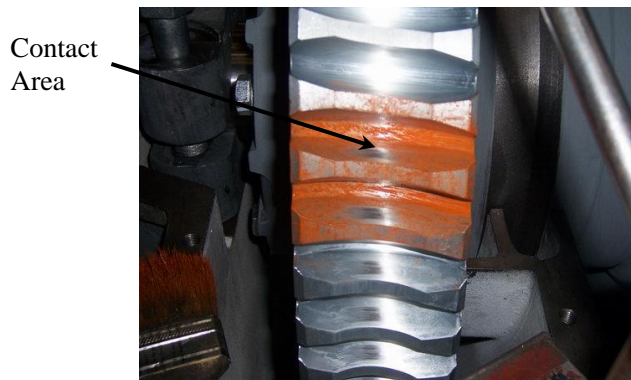

Figure 37 Gear mesh contact check
4. Spray or paint layout color on teeth, rotating the worm shaft in order to drive Ring Gear clockwise and counter clockwise one (1) complete revolution. See Figure 37.